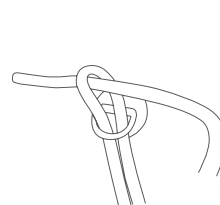

Fig 21 -
1. Push spliced loop of Dock Line through the stainless D ring (Fig 21).